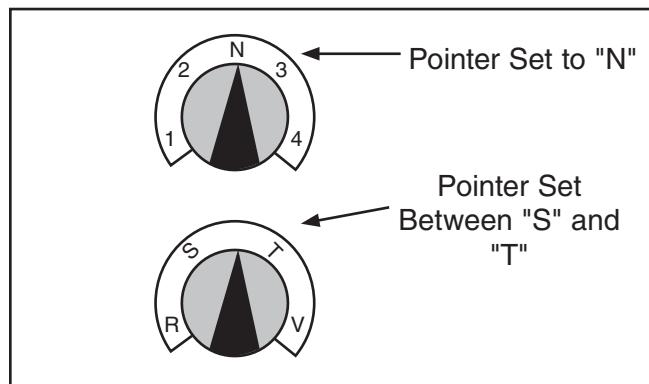

Figure 129. Gearbox dial settings for feed clutch adjustment.
2. Point top right dial at "N", then position bottom right-hand gearbox dial pointer between "S" and "T" (see **Figure 129**). This allows feed rod to move freely so adjustments can be made to clutch.